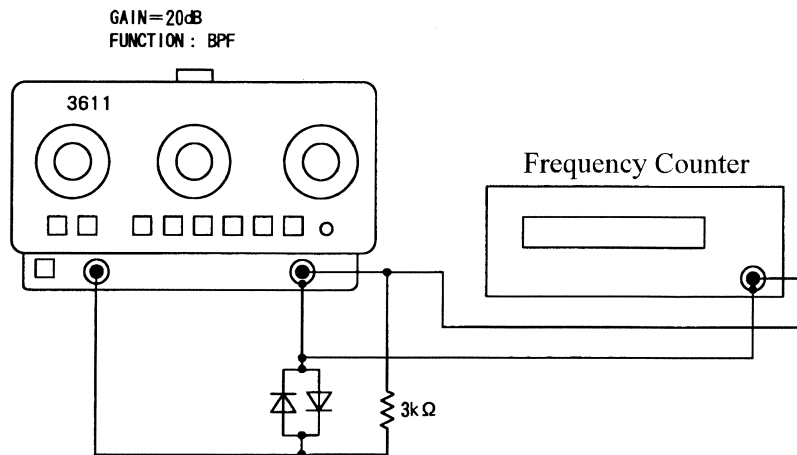

Fig. 4.1 Accuracy Check of Cutoff Frequencies
The MODEL 3611 will become an oscillator, when connected as shown in Fig. 4.1. Therefore, the cutoff frequencies can be checked by simply connecting a frequency counter to the output connector, as follows.
- Connect the equipment as shown in Fig. 4.1.
d) When the 3 kΩ fixed resistor in Fig. 4.1 is employed, a waveform approximating a sine wave will be obtained from the output connector.